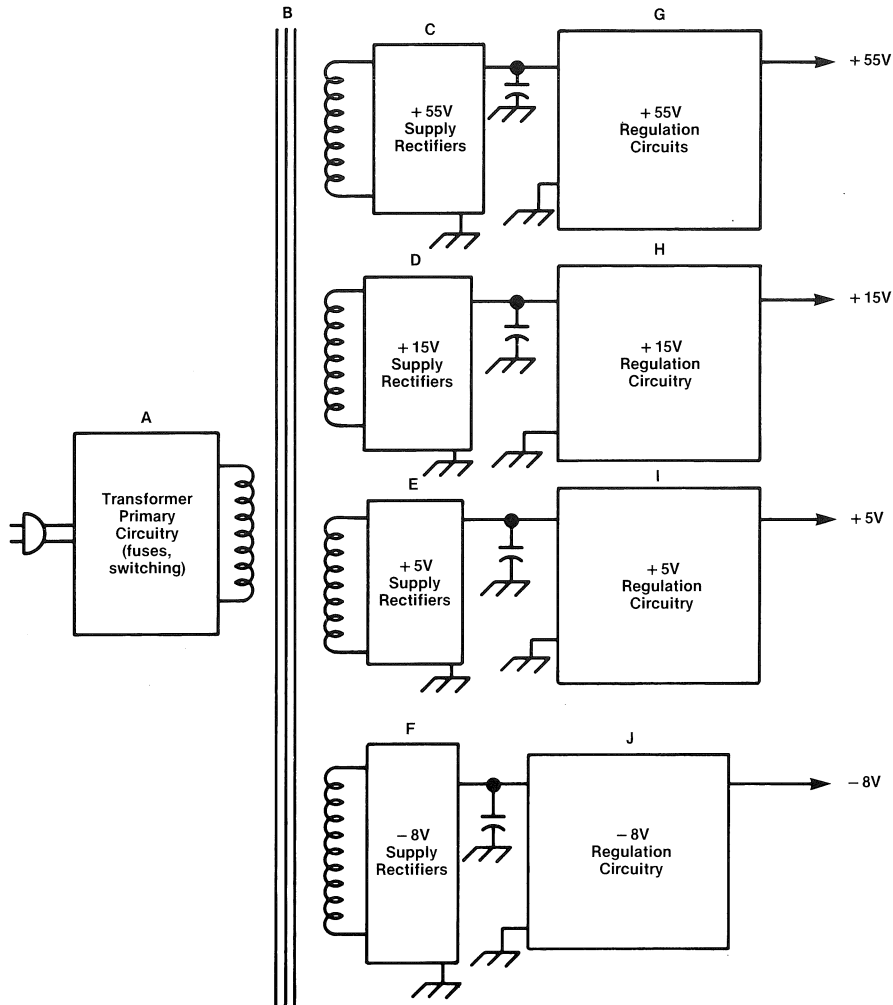
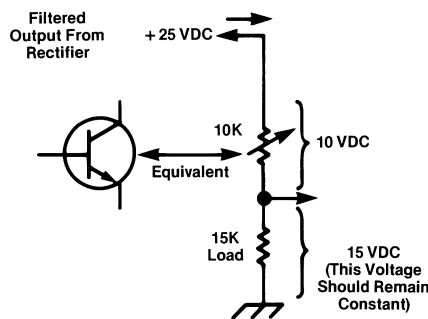
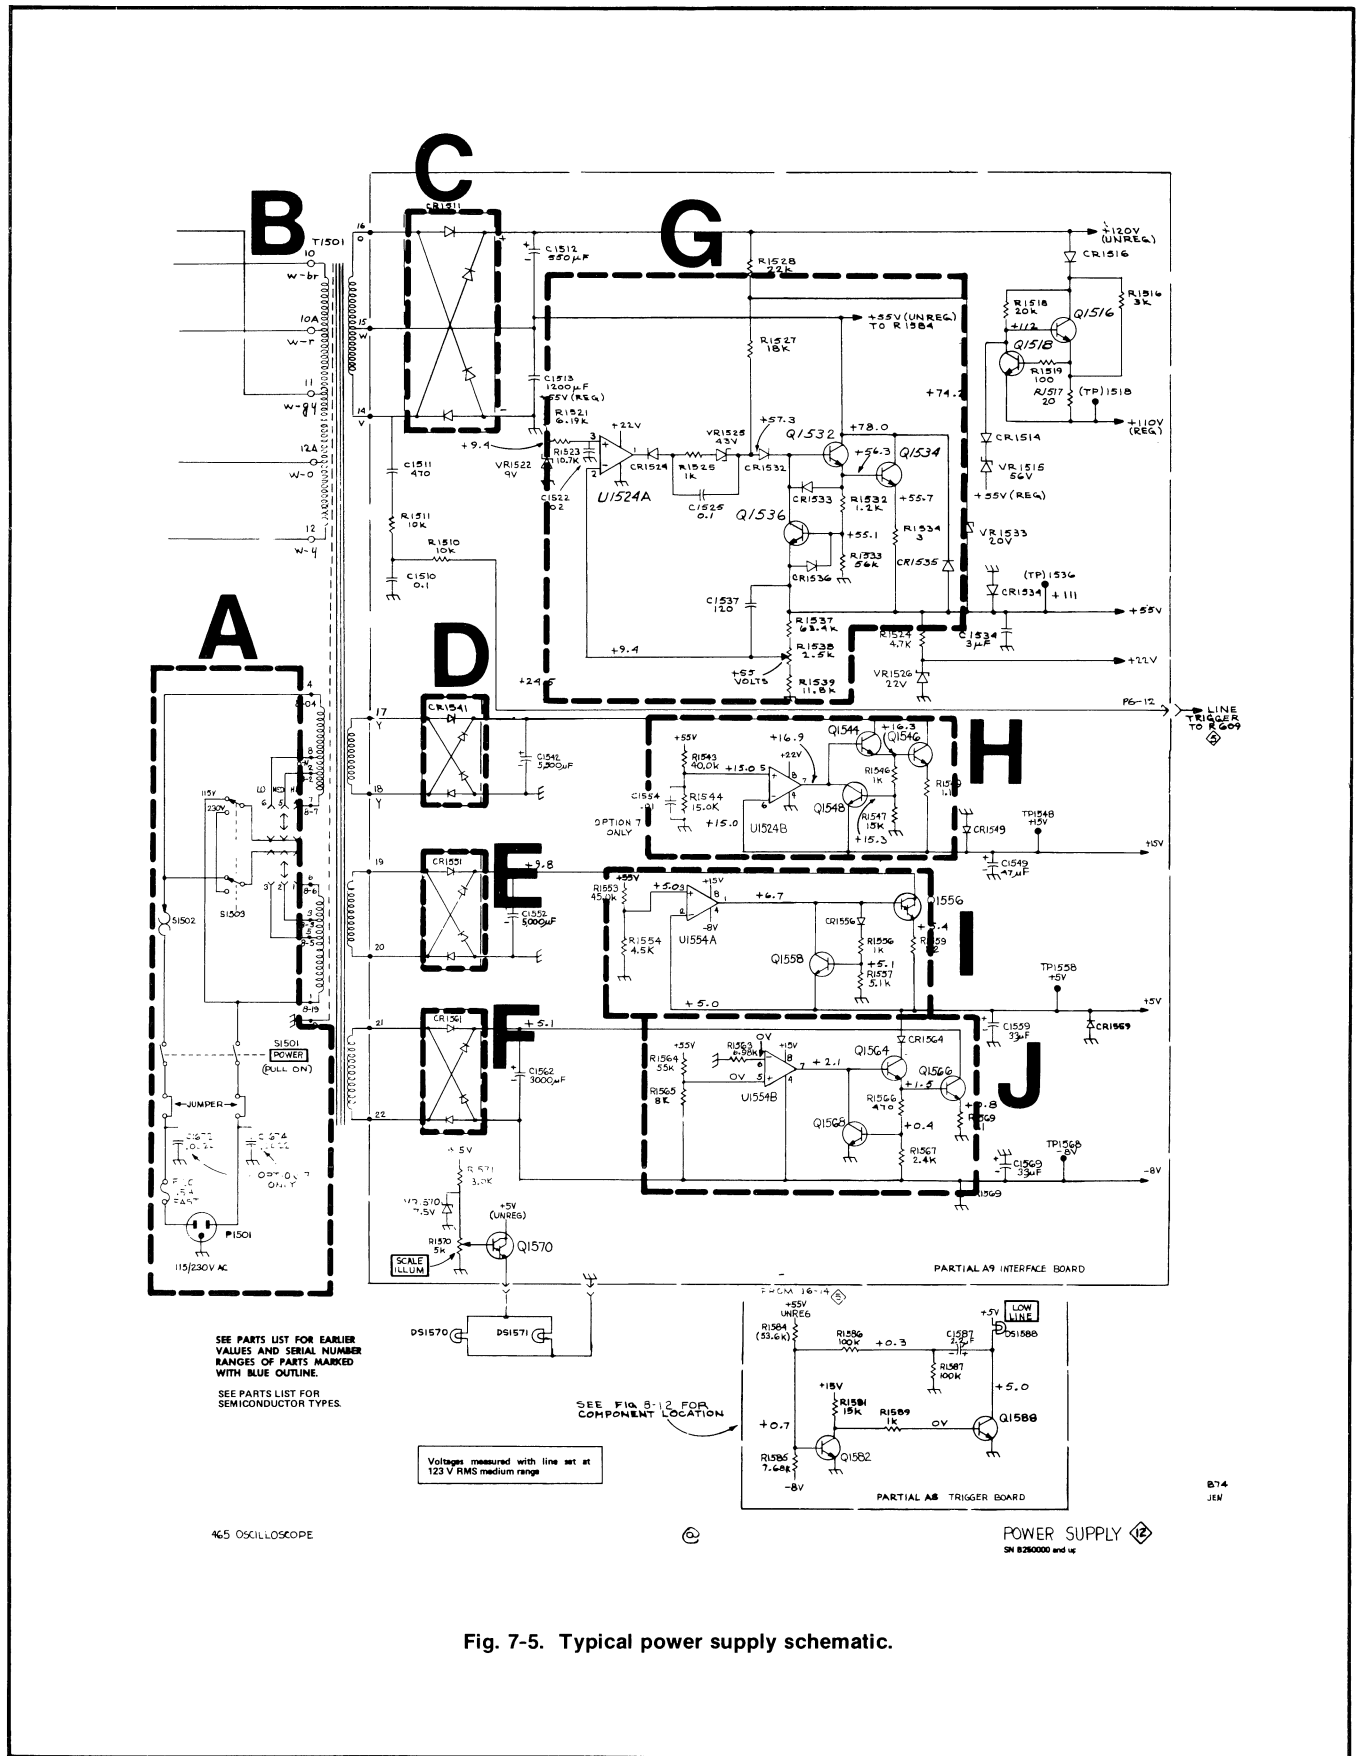

Fig. 7-2. Block diagram of an oscilloscope low voltage power supply.
Fig. 7-3. Series regulator equivalent circuit.
Fig. 7-5. Typical power supply schematic.
Even though power supply circuits may vary considerably from one oscilloscope to another, almost all of them employ the steps listed above. The low-voltage power supply for the TEKTRONIX 465 Oscilloscope will be used for our discussion of power supply concepts. Figure 7-2 shows a block diagram of an oscilloscope low-voltage power supply. The ac line is connected to the transformer primary through a fuse, an on-off switch, ac line voltage selection switching, and usually some form of thermally operated switch. This circuitry is located in block A of Fig. 7-2.
The ac line current in the transformer primary winding generates four different ac voltages; one voltage across each secondary winding of the transformer (block B of Fig. 7-2). The ac voltages on the secondary windings are rectified by their respective rectifier circuits, blocks C, D, E, and F of Fig. 7-2. The pulsating dc outputs of the rectifiers are then filtered, by capacitors in this case, and then applied to the regulation circuits.
The regulation circuits are blocks G, H, I, and J of Fig. 7-2. The primary purpose of the regulator block is to adjust an internal impedance, usually the degree of conduction of a regulator transistor, as necessary to hold the output voltage constant. The series regulator is the most commonly used form of regulator circuitry in oscilloscope power supplies. To understand its operation, the series regulator transistor can be thought of as a variable resistor in series with the load. We've shown this schematically in Fig. 7-3.
If the resistance of the load in Figs. 7-3 and 7-4 had changed (within certain limits), the voltage across the load could be adjusted to the original value, in the same manner as above, by adjusting the series regulator's conduction. In either case, change in line voltage or change in load, the regulator can respond rapidly enough to hold the output voltage constant. In fact, normal ripple from the rectifier/filter circuit is virtually eliminated because the regulation circuit sees this as a voltage change and corrects for it, usually within a matter of microseconds.
In the previous section we saw how the output voltage of a regulated power supply could be regulated by increasing or decreasing an impedance in series with the load. In our power supply circuits, the series impedance is a series regulator transistor. Let's look at the +15 volt supply circuit in Fig. 7-5. The +15 volt supply consists of the circuitry in blocks A, B, D, and H on Fig. 7-5. To relate this circuitry to the supply block diagram, refer to the same blocks in Fig. 7-2 at the beginning of the preceding text. Blocks A, B, and D and capacitor C1542 form a conventional full-wave bridge-rectifier power supply with C1542 used as a filter capacitor.
3. The voltage across the filter capacitor at the output of block D in Figs. 7-2 and 7-5 has certain characteristics that are essentially the same in all power supplies of this type. Mark all the characteristics listed below that describe the voltage across the filter capacitor at the output of block D (Rectifier output).
4. In block H of Fig. 7-5, Q1546 is the series-regulator transistor. Which of the following conditions would cause a significant increase in Q1546's collector current? Mark all correct answers.
5. In block H of Fig. 7-5, U1524B is the error amplifier for the +15 volt power supply regulator. If this circuit is operating properly what will be the voltage *difference* between pins 5 and 6 of U1524B?
We've discussed the basic concepts of the +15 V power supply and these same concepts apply to all the other supplies shown in Fig. 7-5. In the -8 V supply there are some circuitry differences but the concepts are the same. In the +15 volt supply, the negative side of the bridge rectifier (block D, Fig. 7-5) was tied to ground and the positive side was tied to the load through the series regulator. In the -8 volt supply the negative side of the bridge rectifier (block F, Fig. 7-5) is removed from ground and tied to the load. The positive side of the bridge rectifier is tied to ground through the series regulator and a small resistor. Even with these differences, we still control the current in the circuit, and consequently the load voltage, with the series-regulator transistor, Q1566. The error amplifier U1554B still tries to maintain zero difference between its two inputs and to do so in the circuitry of block J, it must provide enough current to develop -8 volt across the load.
The rectifier circuit for the +55 volt supply is block C of Fig. 7-5. This rectifier circuit and the associated transformer winding provide two unregulated output voltages for two separate regulator circuits. The regulator circuit consisting of Q1518 and Q1516 are discussed in the cassette audio tape circuit description that accompanies this course. The unregulated voltage for the +55 volt supply comes from the center tap of the transformer winding. The rectifier circuit for the +55 volt supply behaves as a center-tapped full-wave rectifier using the bottom two diodes of block C. The major differences between this supply and the other supplies we've discussed are the regulator circuit reference supply (Zener diode) and the potentiometer in the feedback path of the regulator circuit, both in block G of Fig. 7-5. In the regulator circuit we use a 9 volt Zener diode to set a reference voltage on the positive (noninverting) input of the error amplifier.
The +55 volt supply has a regulated output that is referenced to the 9 volt Zener diode at the noninverting input of the IC error amplifier. Because the +55 volt supply is regulated, its output is used as a reference for the other regulated supplies in Fig. 7-5. This avoids the need for separate Zener diode supplies for each regulated circuit.
7. In the power supply represented by Fig. 7-5 at the beginning of this section, each of the regulator circuits use a reference voltage to compare with a sample of the regulator output. If the voltage across VR1522 (block G) changed, because of a circuit fault, to +3 volts, some other things might change in the power supplies. Listed below are the normal power supply outputs (left column) and some possible effects that might occur under these conditions. Match the items in the left column with the appropriate items in the right column. Select *all* correct answers.
A. _____ +55 volt supply (1) output voltage would change toward zero.
B. _____ +15 volt supply (2) output would go further away from zero.
C. _____ +5 volt supply (3) output would go less negative (or more positive).
D. _____ -8 volt supply (4) output would go less positive (or more negative).
In each of the regulator circuits in Fig. 7-5, blocks G, H, I, and J, there is a transistor connected between a point in the error amplifier and the supply output (between amplifier and ground in the -8 volt supply). These transistors are used to limit the current delivered by the supply in case of a short circuit or excessive load. Invariably these protection circuits break the feedback loop and allow the output voltage to drop in order to limit the current output. We will use the $+15$ volt supply regulator, block H, to describe the current limiting circuit behavior. Q1548 is the current limiting transistor.
9. In the power supply circuit in Fig. 7-5 at the beginning of this section, several components are included to protect the circuitry from damage because of excessive current being drawn from the supply. Which of the components listed below are primarily for protection of the power supply circuitry? Mark all correct answers.